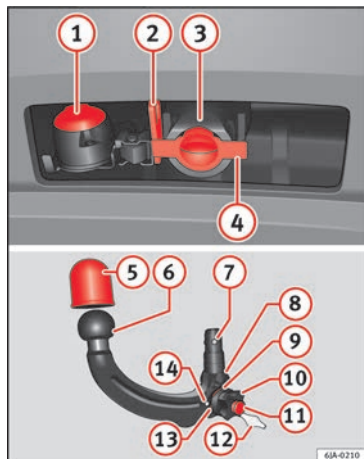

Fig. 195 Towing bracket device support for hitching/ball-headed bar.
Key to » **Fig. 195**
- Remove the cap from the clamping bush **4** » **Fig. 195** by pulling downwards.
- Place the cover over the clamping bush (4) » **Fig. 195.**